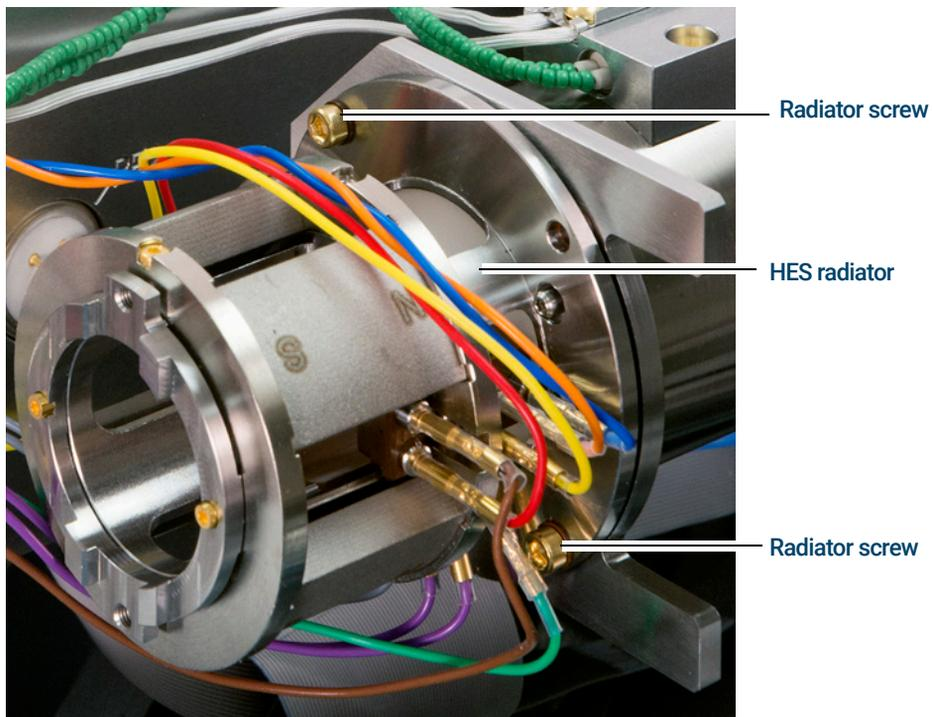

Figure 75. Removing the EI HES radiator
- 5 Use a T10 Torx screwdriver to loosen the two screws that secure the radiator to the analyzer and place the radiator in its storage container. (See **Figure 75** on page 232.)